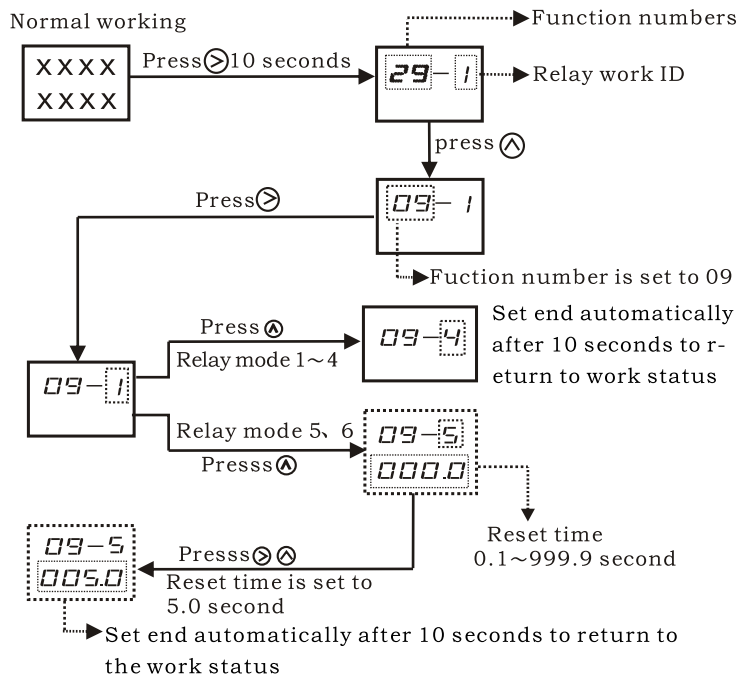

Figure 1
(1) power meters long by 10 seconds, switch to the dashboard display function and status of the relay settings work, enter the front of the instrument to determine the functional code and relay number work, see Figure 1.
(2) The only options for action relay 5 and 6, the instrument under the row of four digital tube will display the value set for the four relay reset time, set the range of 0.1 ~ 999.9S. Set the way for other movements, the digital controls are not under the row shows that the specific process of Figure 1.